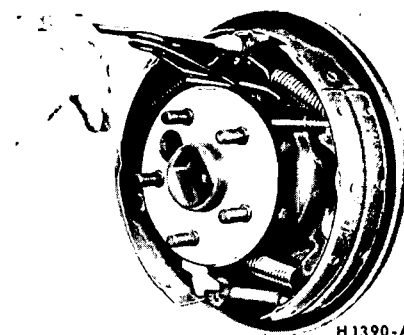

FIG. 7 Retracting Spring Removal
1. With the wheel and drum removed install a clamp over the ends of the brake cylinder as shown in Fig. 7.
2. Remove the secondary shoe to anchor spring with the tool shown in Fig. 7. With the same tool remove the primary shoe to anchor spring and unhook the cable eye from the anchor pin.